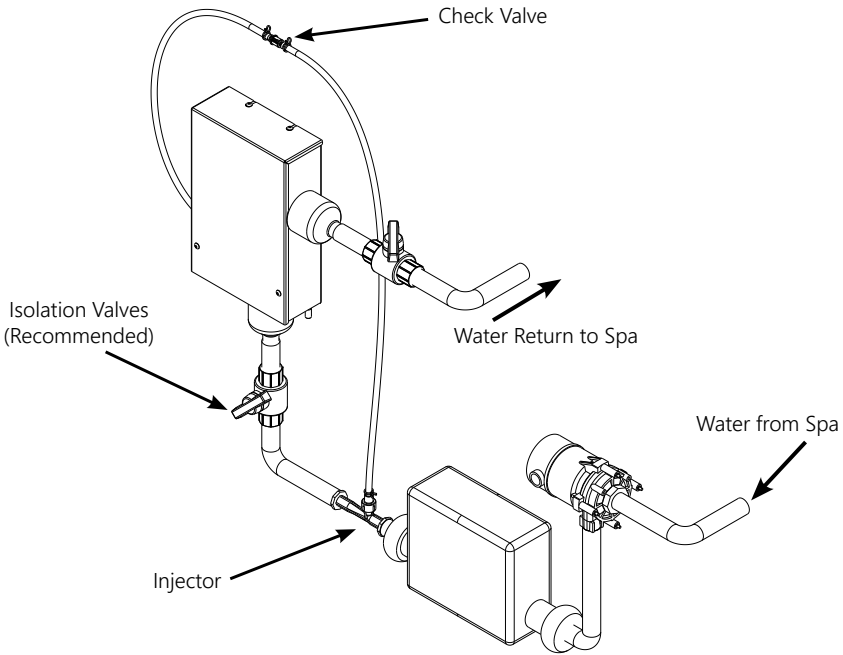

Figure 2: DEL AOP® Spa Plumbing Diagram
- b. Mount the DEL AOP Spa to the spa frame with #8 hardware. The preferred mounting orientation is shown in Figure 2. Connect water inlet at the bottom. Contact customer support for other installation options.